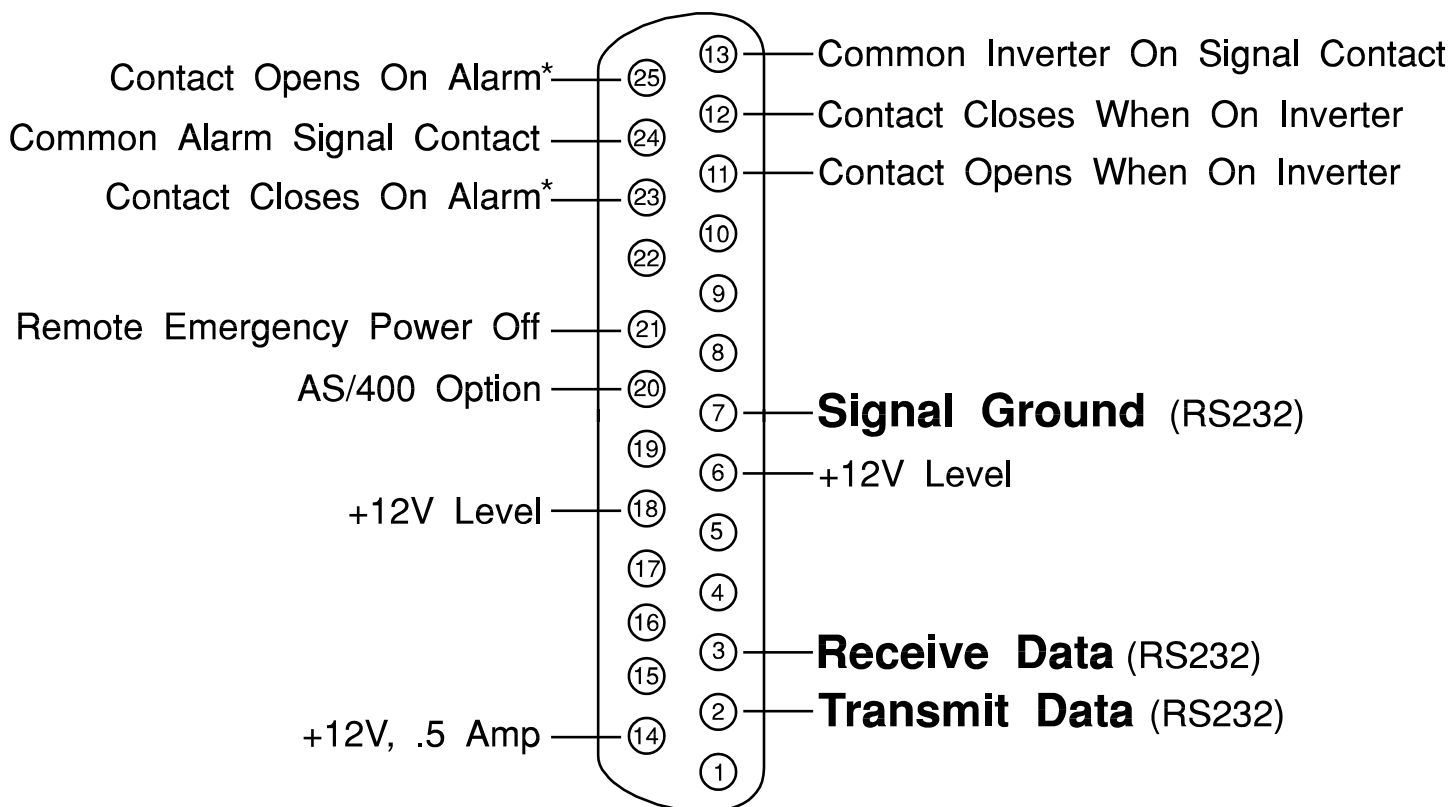

Figure 200
**Do not attempt to use RS232 communications features before reviewing Section 300.** Figure 200 shows the pin functions on the UPS communications port.